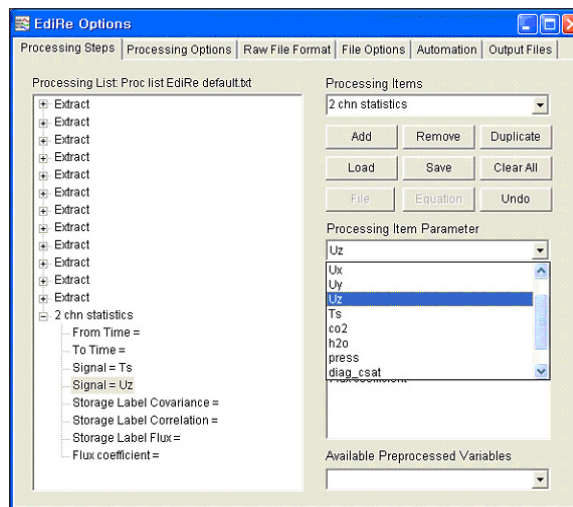

**Figure 7:** The "+" has been clicked to expand the processing options.
16. After adding it to the list, click on the “+” box next to “2 chn statistics” to expand the options as shown Figure 7.